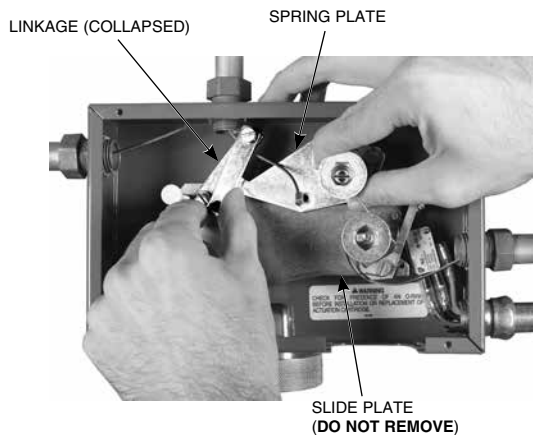
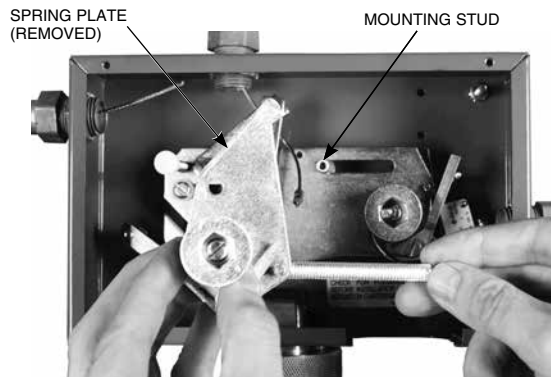

FIGURE 19
FIGURE 20
- Collapse the linkage (see Figure 19), and remove the existing spring plate from the mounting stud. See Figure 20.